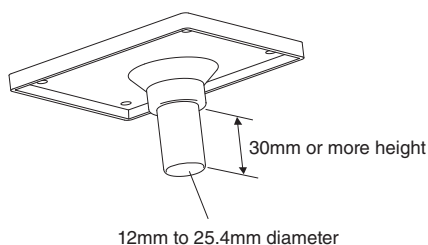

Fig.2
- To use this stand, your multipad's mounting plate pipe must be 12mm to 25.4mm in diameter with a height of 30mm or more.(Fig.2)